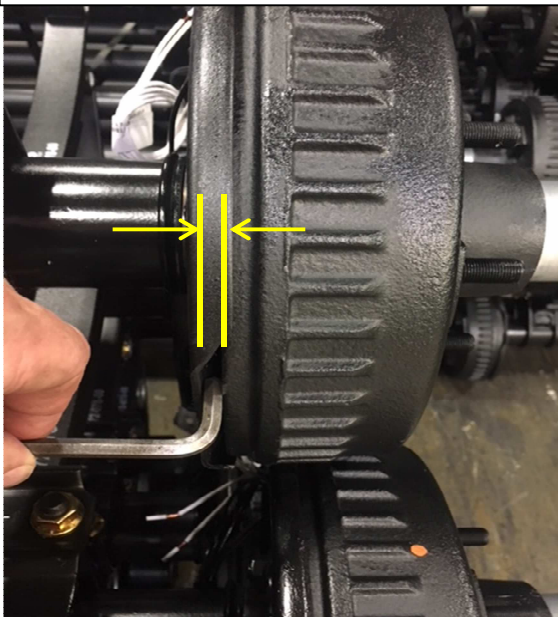
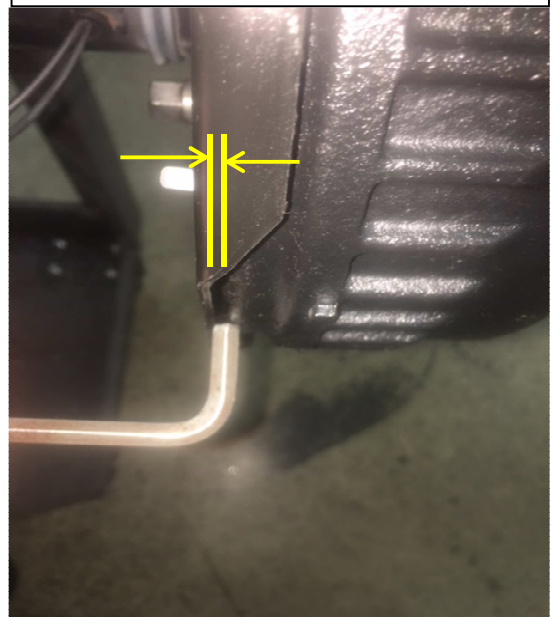

Figure 1
Figure 2
1. While underneath trailer, look at gap between hub-drum and backing plate in scalloped areas of backing plate. Using supplied $\frac{1}{4}$ " gage, attempt to insert gage between hub – drum and backing plate, in the scalloped area of the backing plate, as shown in figure 1.
Good Part. Gap should be minimum $\frac{1}{4}$ " between hub and backing plate. Gage should fit as shown in figure 1.
Bad Part. Gap is too small between hub and backing plate. Gage will not fit as shown in figure 2.
2. Determine if the gage fits (figure 1) or does not fit (figure 2) between backing plate and hub-drum.